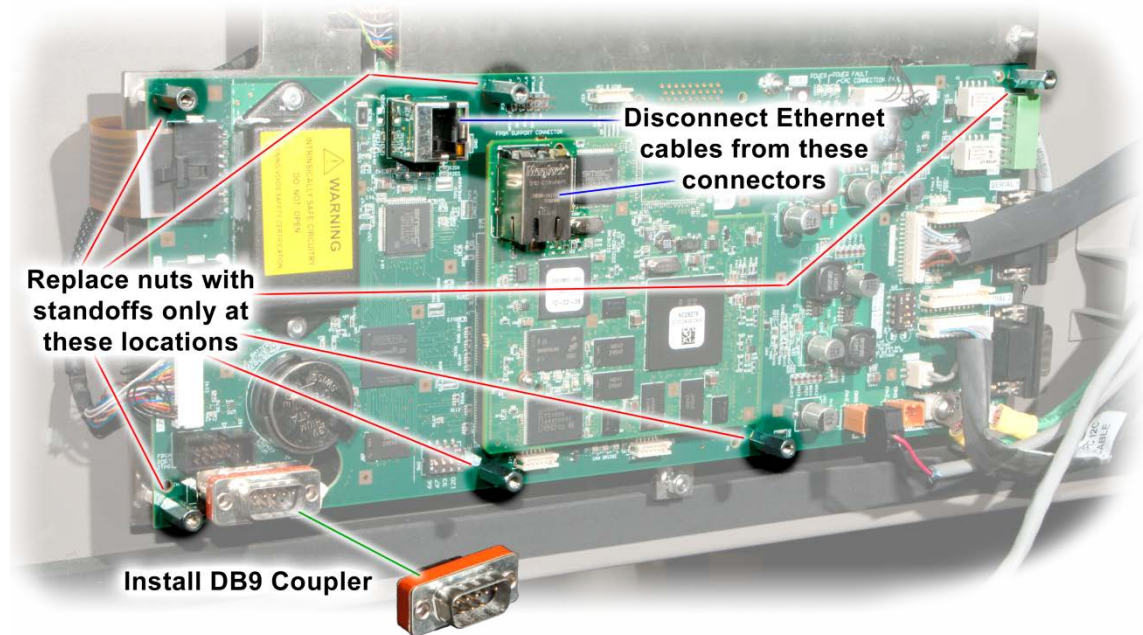

Figure 1: Locations of Changes
5.	Disconnect the two Ethernet cables shown in Figure 1.
6.	Remove 6 nuts from the positions shown in Figure 1.
8.	Install DB9 coupler (part number A5E34104634) on debug connector as shown in Figure 1.